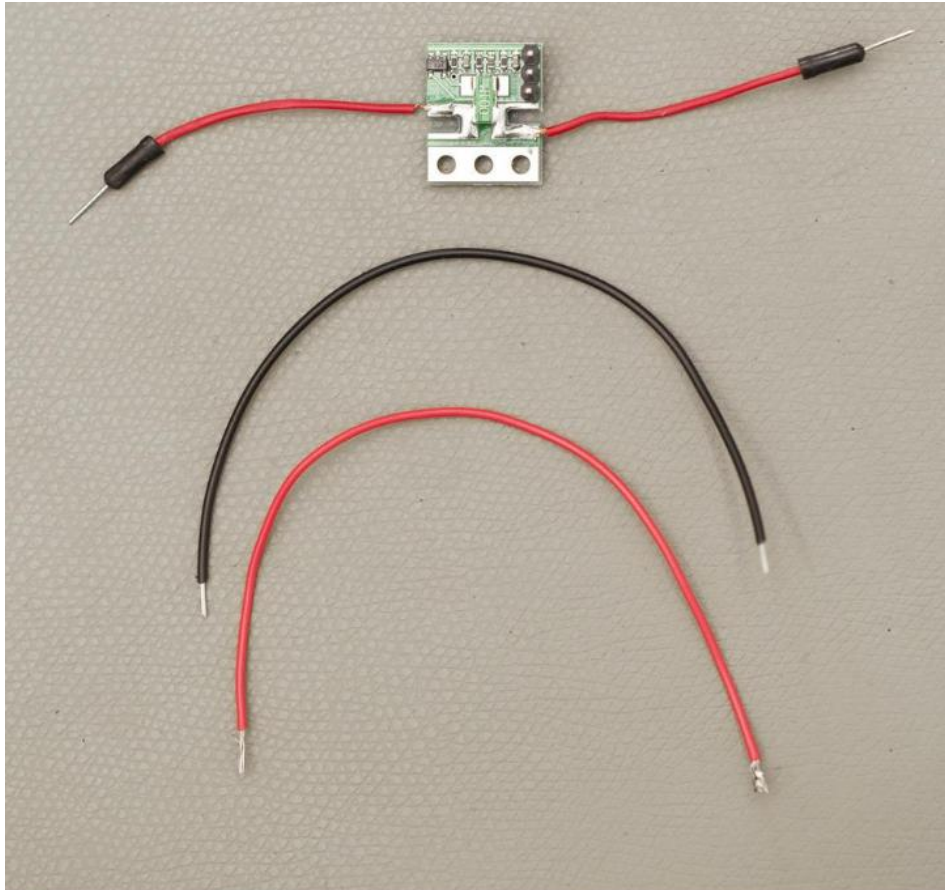
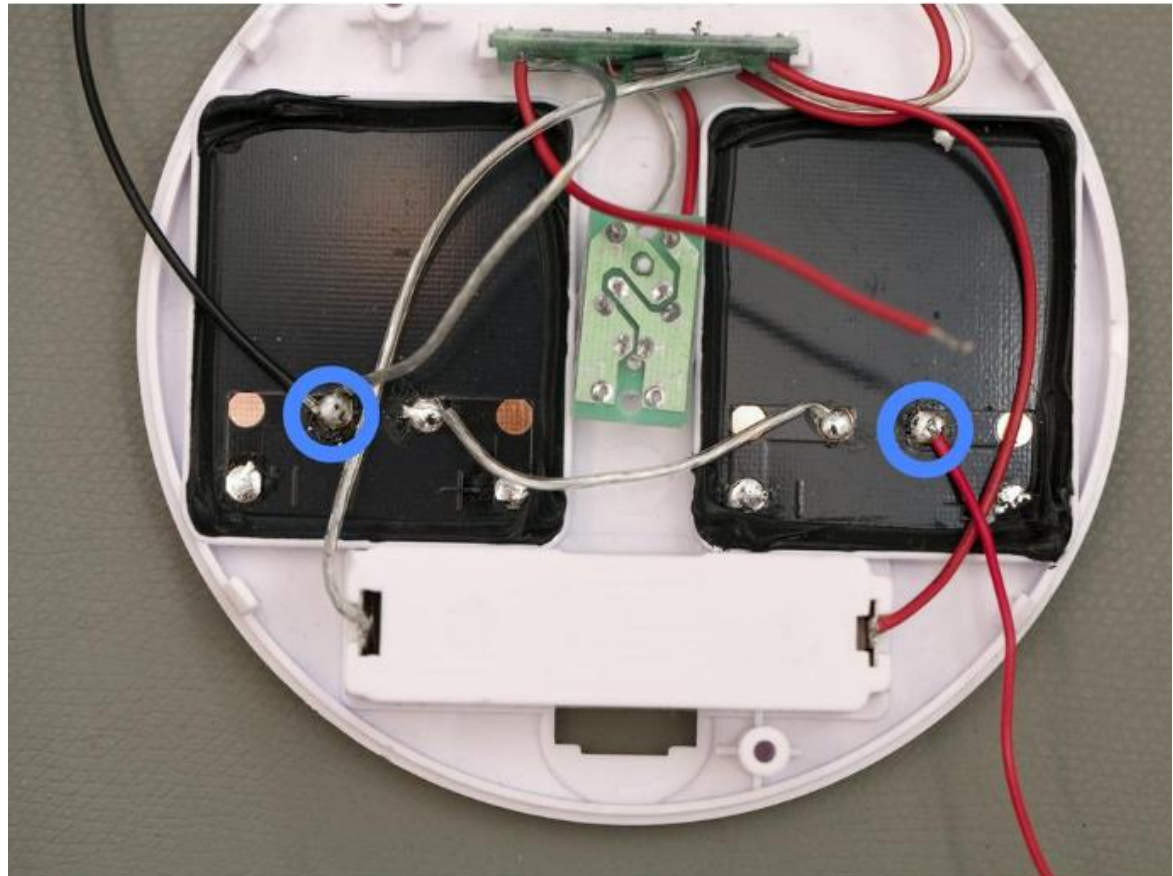

Figure 10-14. Jumper wires
Figure 10-15. Jumper wires soldered to solar cells
- Cut the jumper wires as shown in Figure 10-14 and solder them to the current sensor and to the solar cells as shown in Figure 10-15. The final product is
- Cut the jumper wires as shown in Figure 10-14 and solder them to the current sensor and to the solar cells as shown in Figure 10-15. The final product is shown